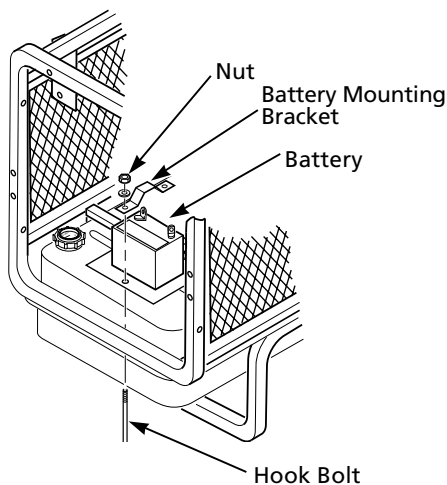

Figure 16 – Battery Hold-Down System (Model 3LW64A Shown)
**NOTE:** Model 3LW64A battery is located on opposite side as shown (See Figure 16).
3. Locate the black, negative (-) battery cable attached to engine block. Connect it to the negative (-) battery terminal (See Figure 16).